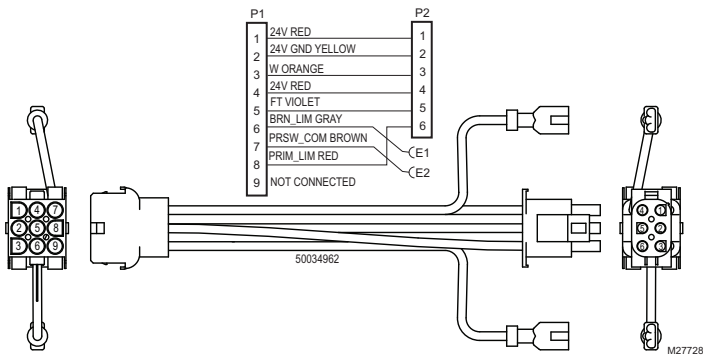

Fig. 8. ST9141 wire harness adapter 50034962 schematic.
2. Unplug the 9-pin connector and plug existing wiring harness directly into the 9-pin connector found on the ST9141 wiring adapter 50034962. See Fig. 8 and Table 5 for further wire harness adapter description.